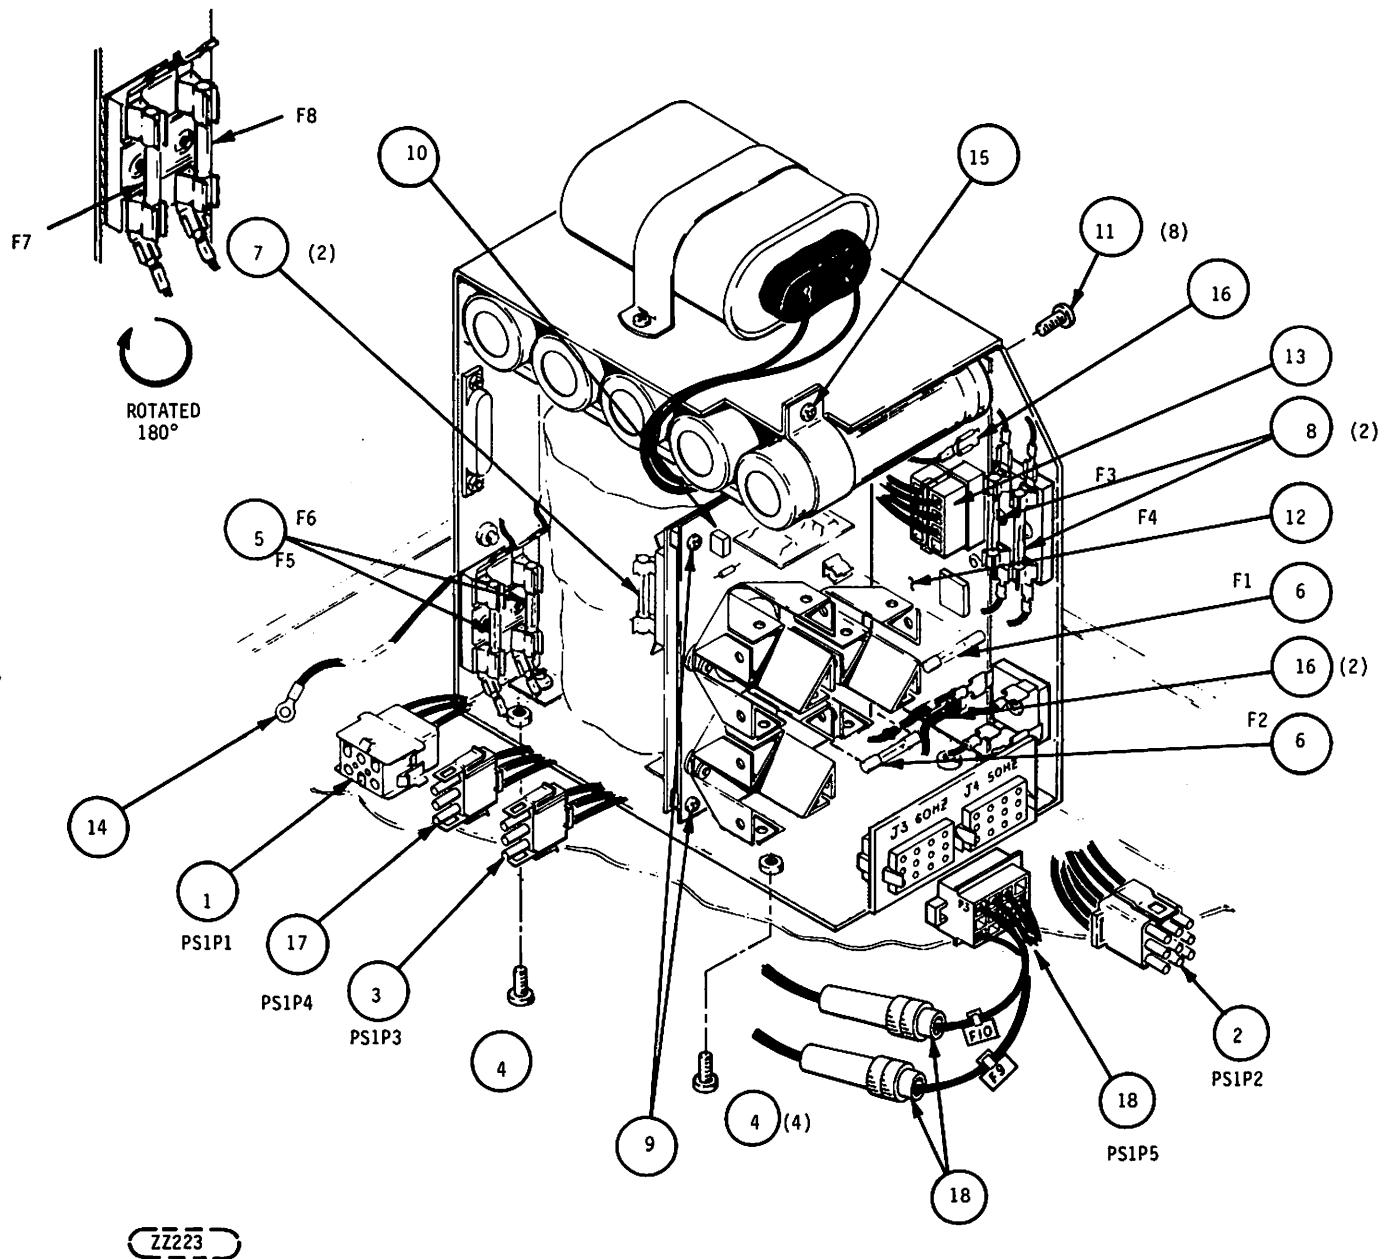

FIGURE 6-17.1. 50/60 HZ POWER SUPPLY ASSEMBLY
6.7.15.3). Some units have F9 and F10 mounted in fuseholders in the wires from CR1 to P3 (in those units which have P3). See Figure 6-17.1. To replace follow steps 1-6 and 8-12. To remove and replace a power supply fuse proceed as follows.